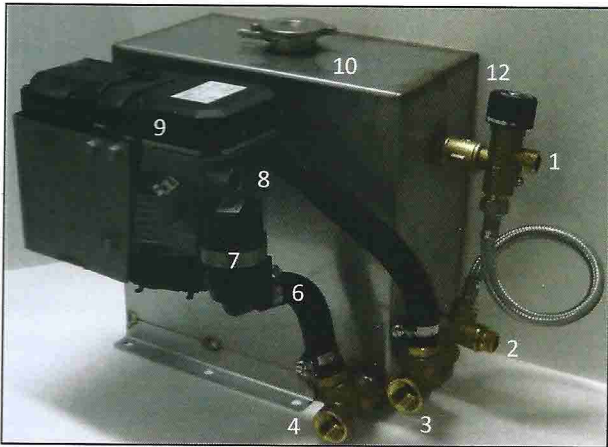

Fig 5 – Heater component location
- 4.1 Connect the combustion air tube (8) to the heater (Fig. 5 & 6) utilising the 25mm clamp.